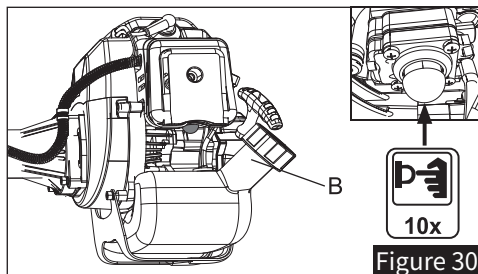

Figure 30
4.7.1 Refueling the machine (see Figure 30)
- Clean any debris from around the fuel filler cap (Figure 30, Item B).
- Carefully open the fuel filler cap (Figure 30, Item B) slowly to allow any internal pressure to release.
- Securely tighten the fuel filler cap (Figure 30, Item B) until it is hand-tight. Ensure the seal is proper.
- Press the fuel pump bulb at least 5-10 times (see Figure 30).